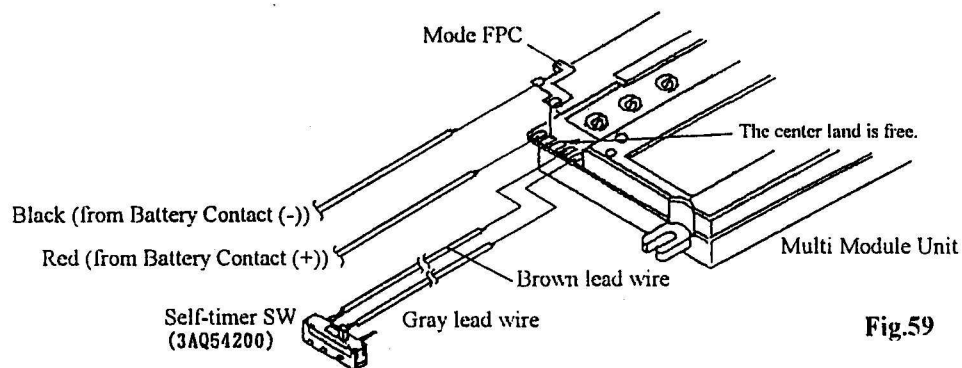

Fig.59
- 2) Unsolder the Red and Black lead wires (from Battery Contact) on the Multi Module Unit. (See Fig. 59)
- 4) Dress the Mode FPC and Body Connect FPC as shown in Fig. 59.